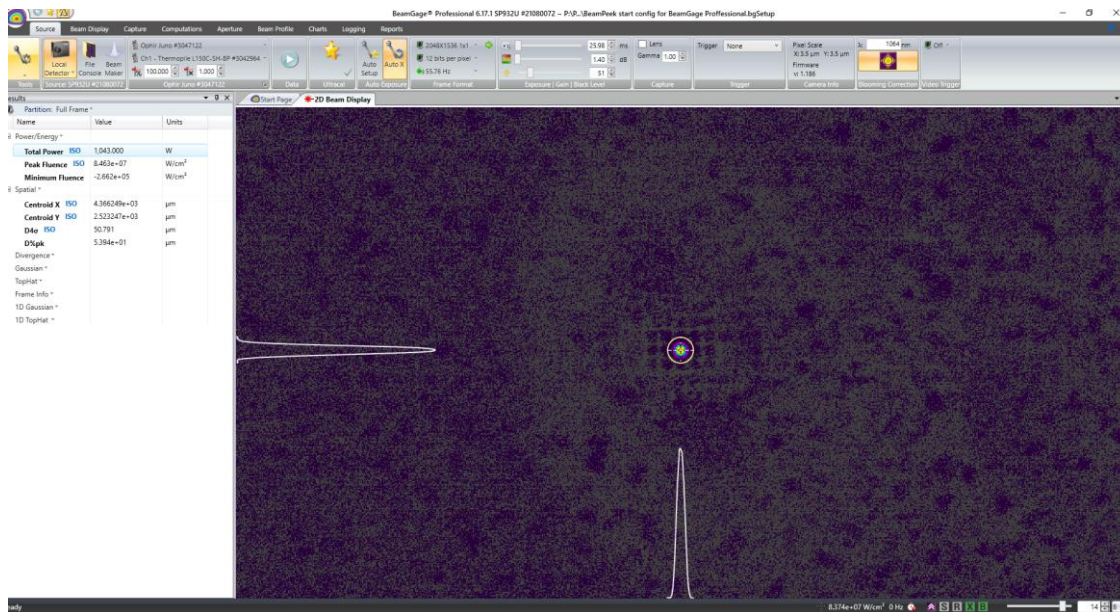

Figure 5: Typical BeamGage setup
4. Connect the USB 3.0 (3) cable provided with the BeamPeek to the PC. The green LED will illuminate when connected.
5. Open BeamGage Professional and load the provided setup for the first use (BeamPeek start config for BeamGage Professional.bgSetup; refer to Figure 5).